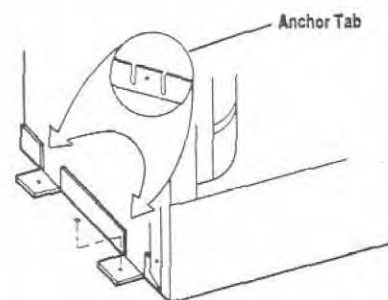

Figure 9
**Step 4.** Fireplace may be anchored to floor. Bend down four (4) anchor tabs located at the base of the fireplace and secure to the floor by nailing with 8d nails (Figure 9).